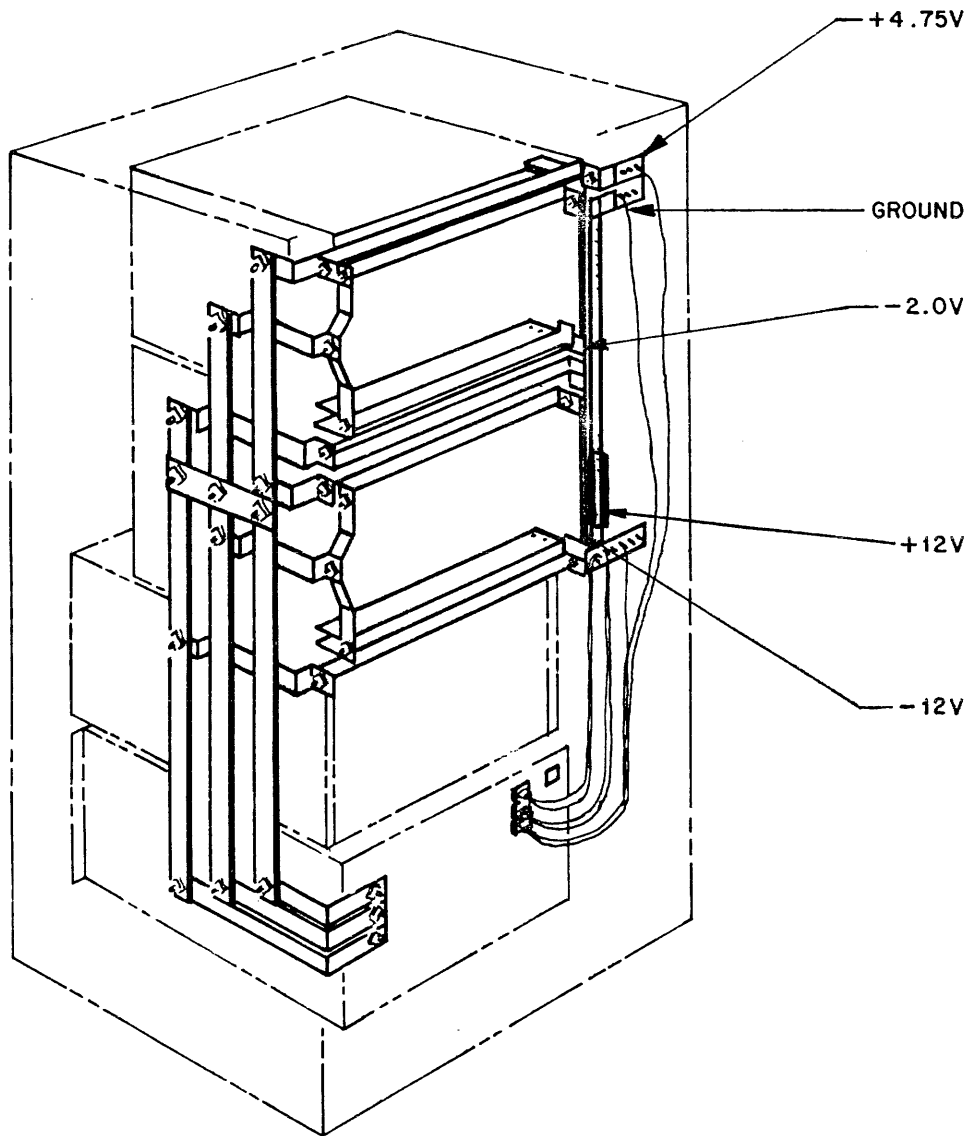

Figure 4-4. B 1712/B 1714 Backplane Voltage Sense Points
This procedure sets the + 4.75 and - 2.0 voltages to their final operating levels. Refer to figure 4-4 in conjunction with the following steps.
- a. Connect the DVM from the bottom of the + 12 volt bus (+) to the GND bus (-). The + 12 volt bus is the one farthest from the backplane. Refer to figure 4-4.
- a. Connect the DVM from the bottom of the - 12 volt bus (+) to the GND bus (-). The - 12 volt bus is the one nearest the backplane. Refer to figure 4-4.